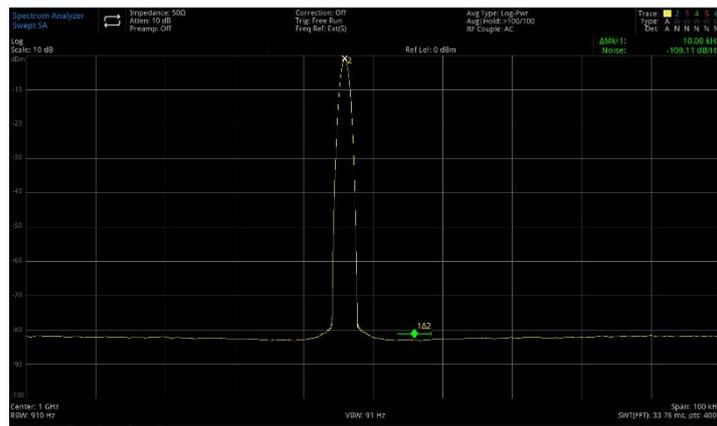

Figure 3-20 Phase Noise
- Open **Mark Function > Mark Noise**, as shown in Figure 3-20.